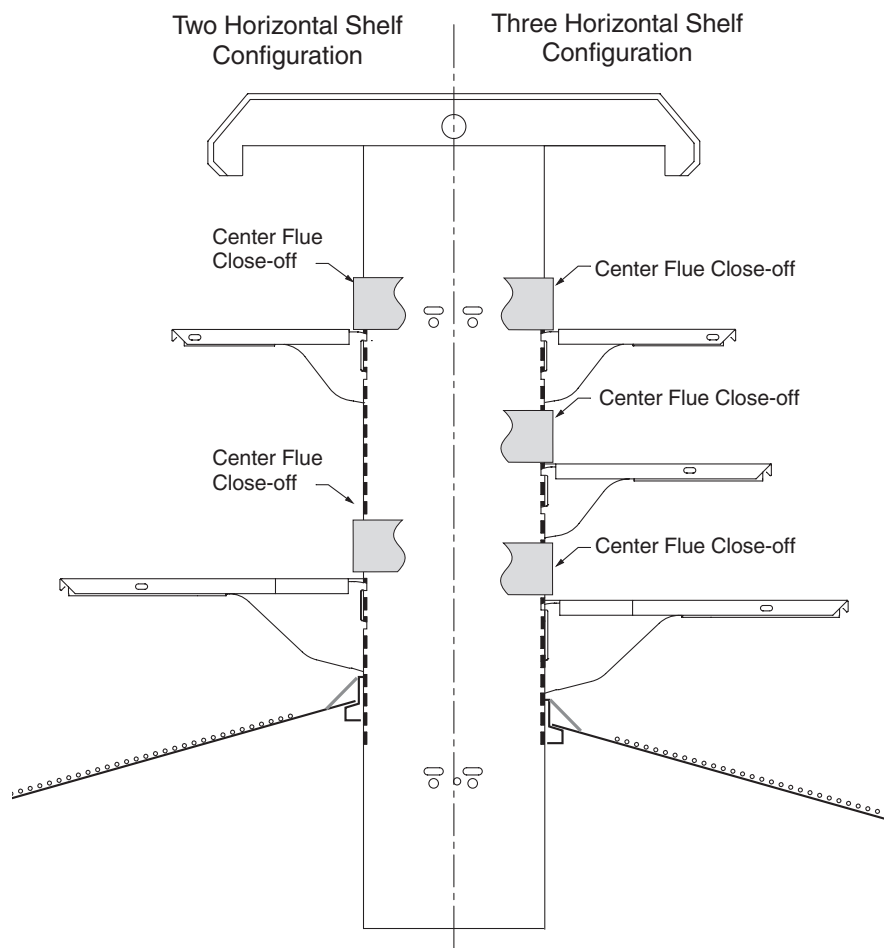

**Figure 28 — Install Center Flue Close-off**
Refer to Figures 28 and Details for Figure 28.
**Detail for Figure 28 — Tilt Shelf**
Detail for Figure 28 — Flat Shelf